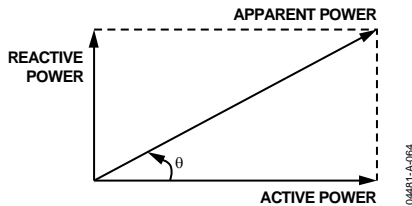

Figure 63. Power Triangle
The apparent power is the maximum power that can be delivered to a load.  $V_{rms}$  and  $I_{rms}$  are the effective voltage and current delivered to the load; the apparent power (AP) is defined as  $V_{rms} \times I_{rms}$ . The angle  $\theta$  between the active power and the apparent power generally represents the phase shift due to nonresistive loads. For single-phase applications,  $\theta$  represents the angle between the voltage and the current signals—see Figure 63. Equation 24 gives an expression of the instantaneous power signal in an ac system with a phase shift.